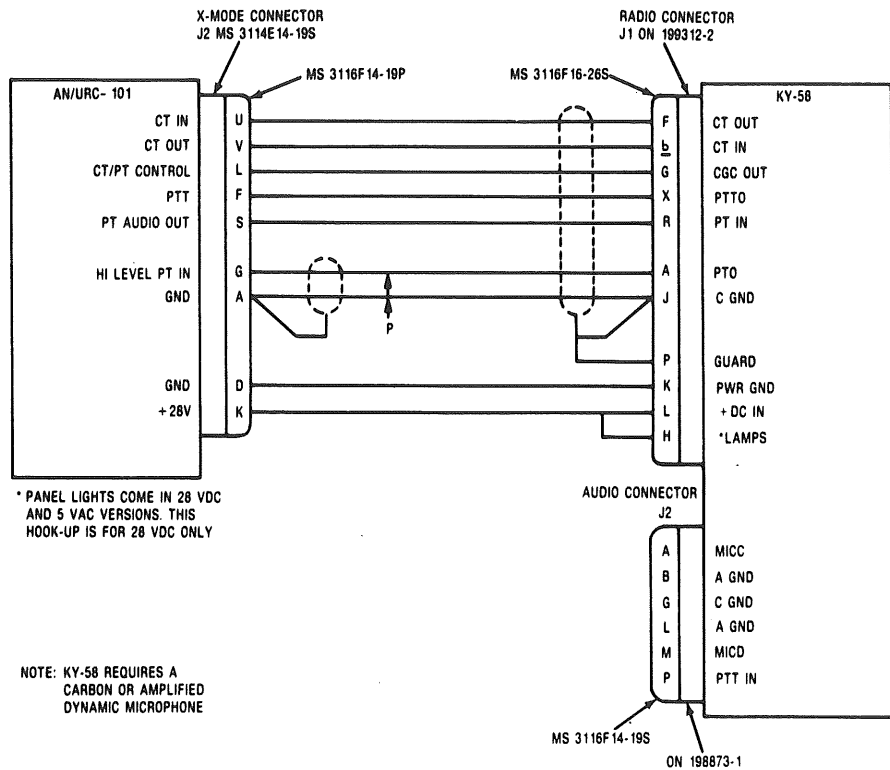

Figure 2-4. KY-58 Interconnect
- a. Connect the KY-58 and the PET as shown in Figure 2-4.
- b. Set the PET SPKR/MODE switch to either PT ON or PT OFF for both cipher text (CT) and plain text (PT) operation. The CT/PT function is controlled by the KY-58.
- c. For Cipher Text (CT) operation switch the PET SPKR/MODE to CT.